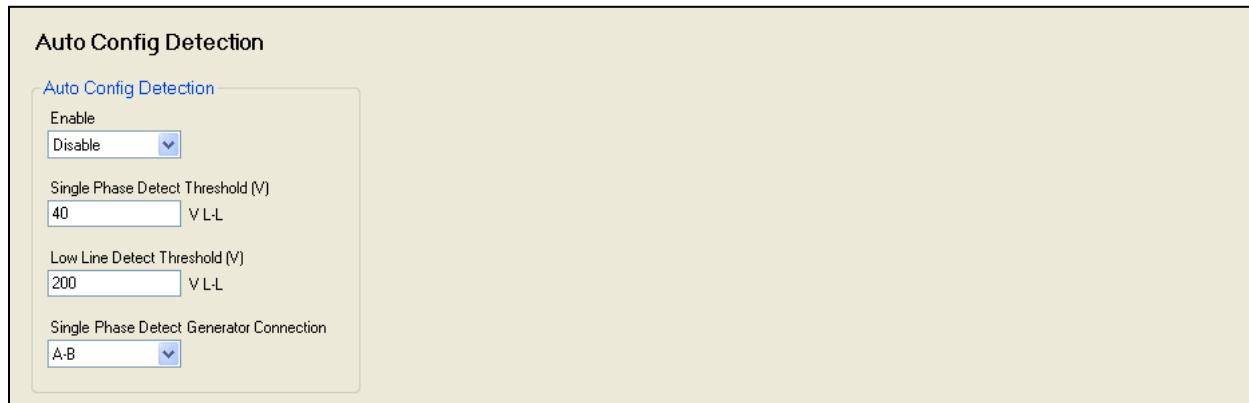

Figure 6-28. Settings Explorer, System Parameters, Auto Config Detection Screen
- a. If the machine connection type is not reconfigurable, disregard this setting. However, if a machine is reconfigurable, these parameters define how automatic detection of the generator connection type for some machines is accomplished. Refer to the appropriate paragraphs in Section 4, *BESTCOMSPlus Software*, for additional information. See Figure 6-28.